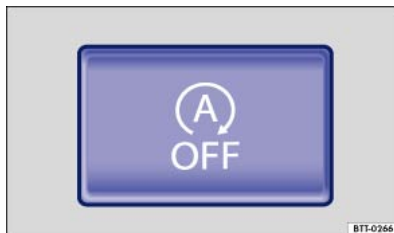

Fig. 121 In the lower part of the centre console: button for the start/stop system.
- Press the button  in the centre console $\Rightarrow$ Fig. 121 to deactivate the system. If the start/stop system has been deactivated, the indicator lamp in the button lights up.
- Press the button  in the centre console again $\Rightarrow$ Fig. 121 to reactivate the system.